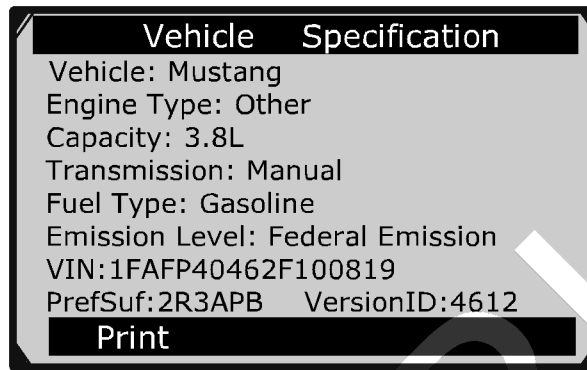

Figure 4.2
- 3) Review selected data on screen. (Figure 4.2 )